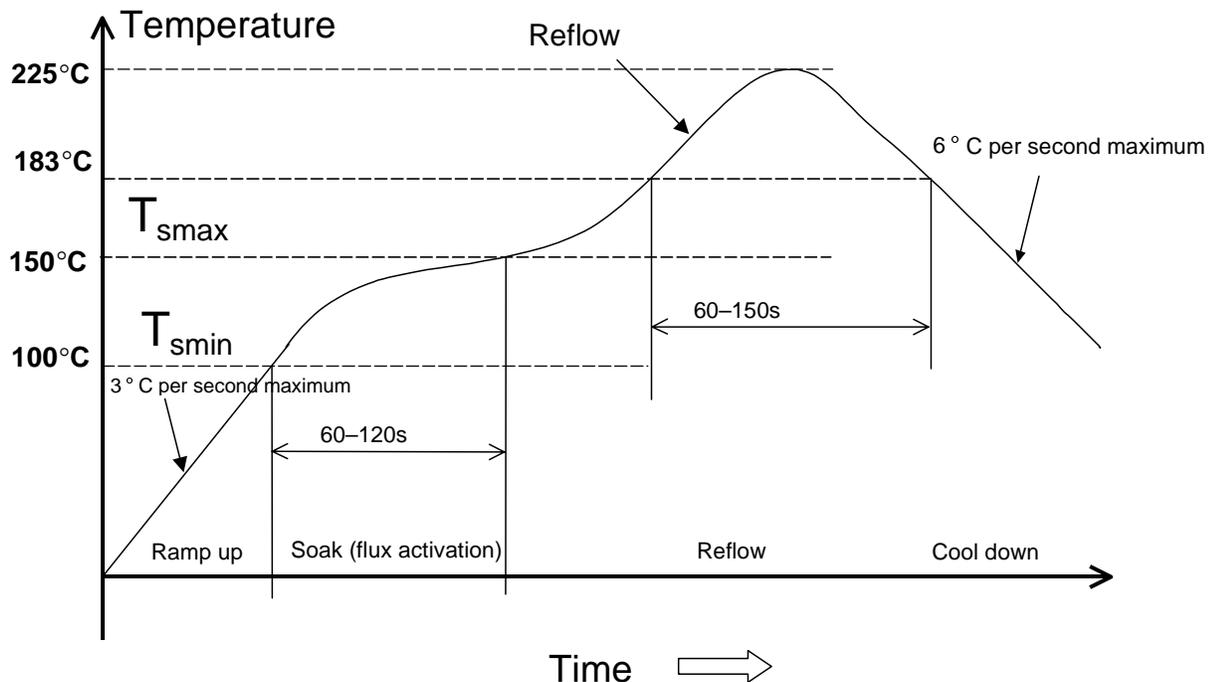

Figure 1: General Convection Reflow Profile for 63Sn/37Pb Solder
The previously described reflow stages (“Reflow Stages” on page 3) are shown in Figure 1 for eutectic 63Sn/37Pb solder. The following guidelines describe the typical parameters of a convection reflow profile. These are intended to be general guidelines. The exact profile is highly dependent on many factors, including the thermal mass of the assembly and the requirements/characteristics of the solder paste. Most solder manufacturers provide a recommended reflow profile based on solder composition and flux chemistry. The following figure is a typical reflow profile for eutectic solder.
**Note** The profile shown in Figure 1 represents the solder joint temperatures.